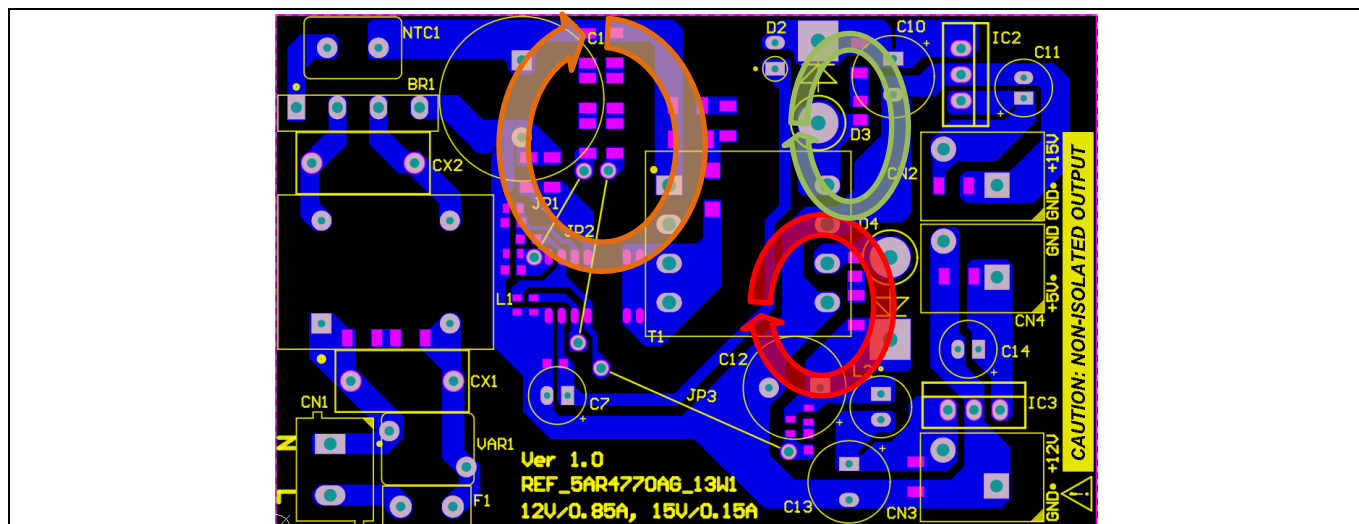

Figure 5 PCB layout tips
- The switching power loop needs to be as small as possible (see Figure 5). There are three power loops in the reference design; one on the HV side and two on the output side. The HV side loop starts from the bulk capacitor (C1) positive terminal, primary transformer winding (pin 1 and pin 3 of T1), CoolSET™, CS resistors and back to the C1 negative terminal. The first output side loop (+12 V output) starts at the transformer winding (pin 6 of T1), output diode D4, output capacitor C12 and back to pin 5 of T1. The second output side loop (+18 V output) starts at the transformer winding (pin 8 of T1), output diode D3, output capacitor C10 and back to pin 7 of T1.